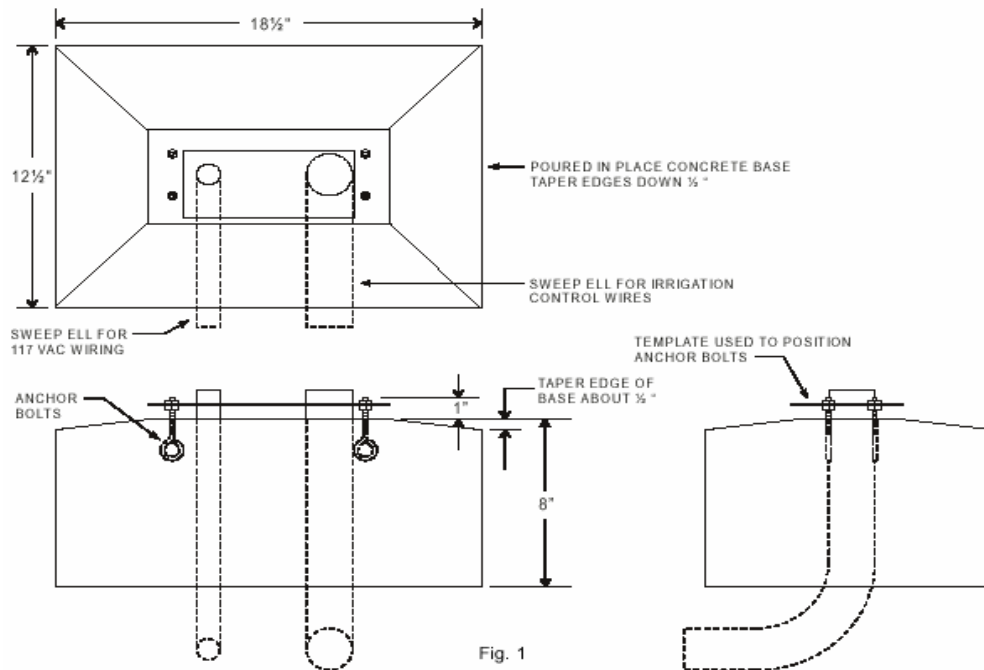

Fig. 1
1. The pedestal is to be mounted on a level concrete base with the top of the base at least 2" above finish grade. This base should be about 18 1/2" x 12 1/2" x 8" (Fig. 1)
2. The 4 anchor bolts provided must be positioned in the concrete before it sets. A steel mounting template is included with the pedestal (Fig. 1).
3. Position any necessary sweep ells in the concrete form. The sweep ell for the irrigation control wires should be to the right, and the sweep ell for the 117 VAC should be to the left (Fig. 1).